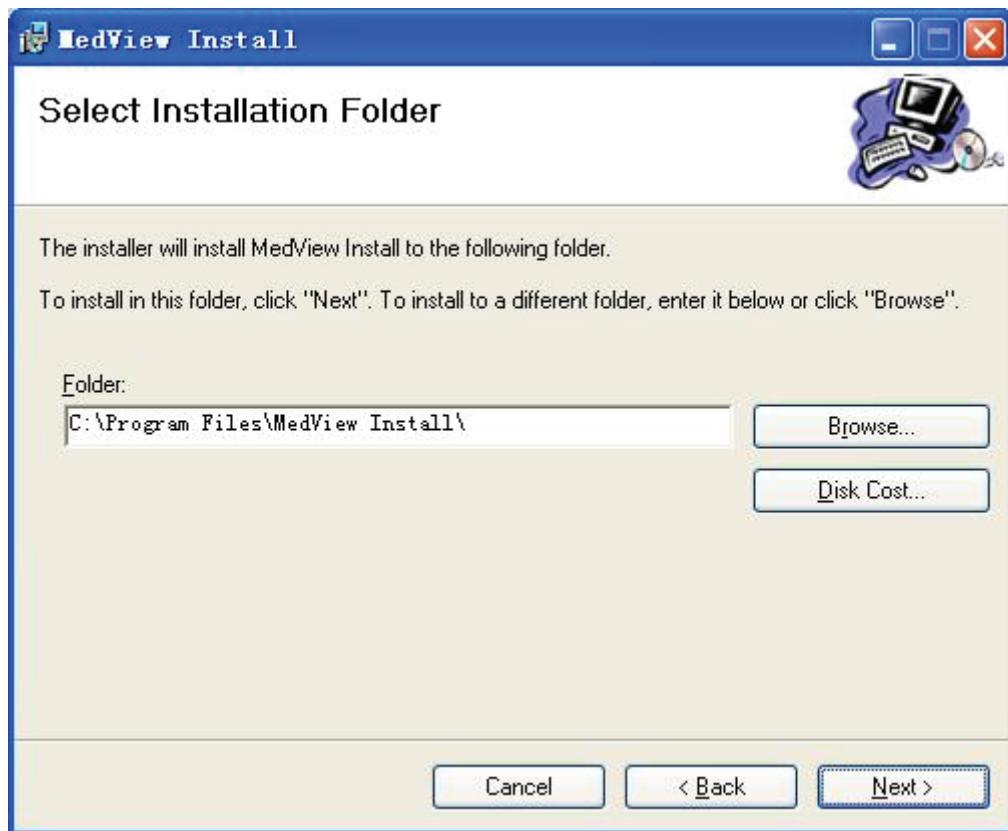
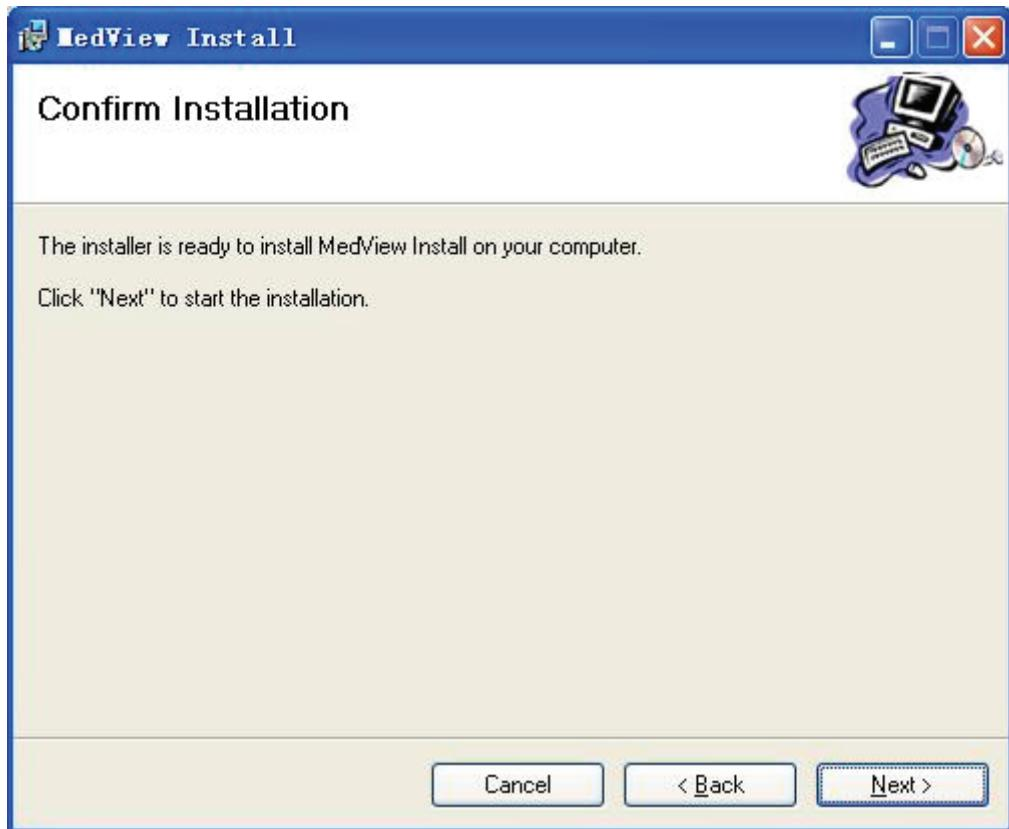

Figure 2-3
Figure 2-4
(2) Click “Next” button in Figure 2-2, then Figure 2-3 will appear.
(3) Click “Next” button in Figure 2-3, the Figure 2-4 will appear and the installation files are saved in “C:\Program Files\MedView Install”. Also, users can click “Browse” button to choose the path for saving the installation files.
(4) Click “Next” in figure 2-4, the software is being installed..